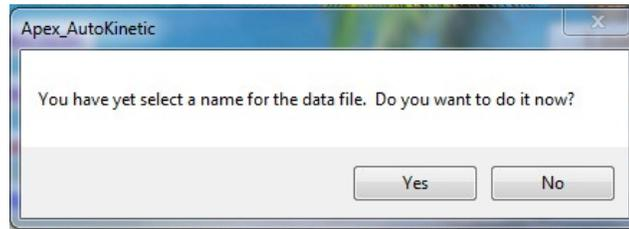

Figure 47 - Save Data File Pop-Up Window
- i) From the Main Menu, click the **Pre_Leak Test** button to open the Leak Test Menu Screen. If a pop-up window is displayed, see Figure 47, below, indicating that the Test Data File has not yet been named, click the **Yes** button to name and save the file.